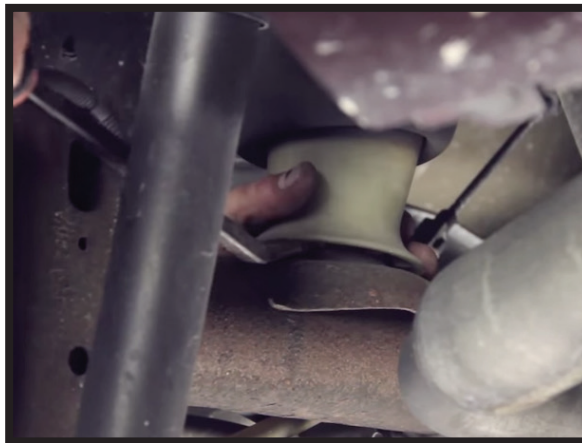

FIGURE 10-4
9. Remove the piston-to-axle spring seat clip. (Air Spring is held in place with a round retainer clip under the piston cap. To unsnap clip, gently pry between the piston and the axle. Clip will unsnap when pressure is applied). (FIGURE 10-4)